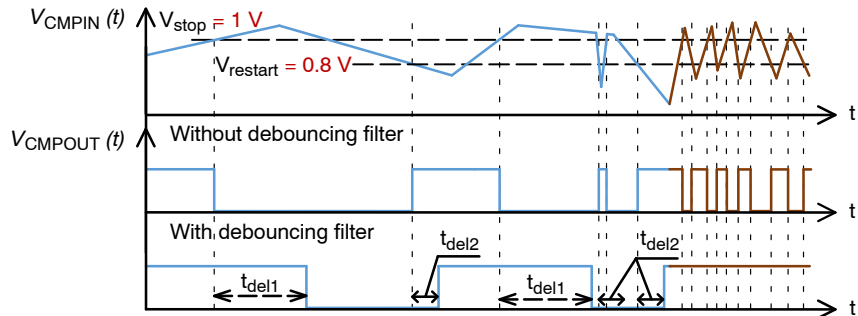

Figure 52. Over-temperature/Over-current Detection with/without De-bouncing Filter
Over-temperature detection is based on pull-down PTC thermistor connected to CMPIN pin. Internal current source force the current value $I_{\text{ref1}} = 120 \mu\text{A}$ through the PTC. If the over-temperature condition appears, the resistance of the PTC thermistor increases, i.e. the sensed voltage reaches the value $V_{\text{stop}} = 1 \text{ V}$ and the comparator turned-on the internal MOSFET, which force the COMPOUT pin to the Low state. The de-bouncing time constants $t_{\text{del1}} = 50 \mu\text{s}$ and $t_{\text{del2}} = 10 \mu\text{s}$ on comparator output can be implemented as an option. The COMPOUT pin goes back to High Z state, when the sensed voltage on PTC decreases below the value $V_{\text{restart}} = 0.8 \text{ V}$. Figure 52 shows the comparator operation with/without de-bouncing filter based on input voltage on CMPIN pin.